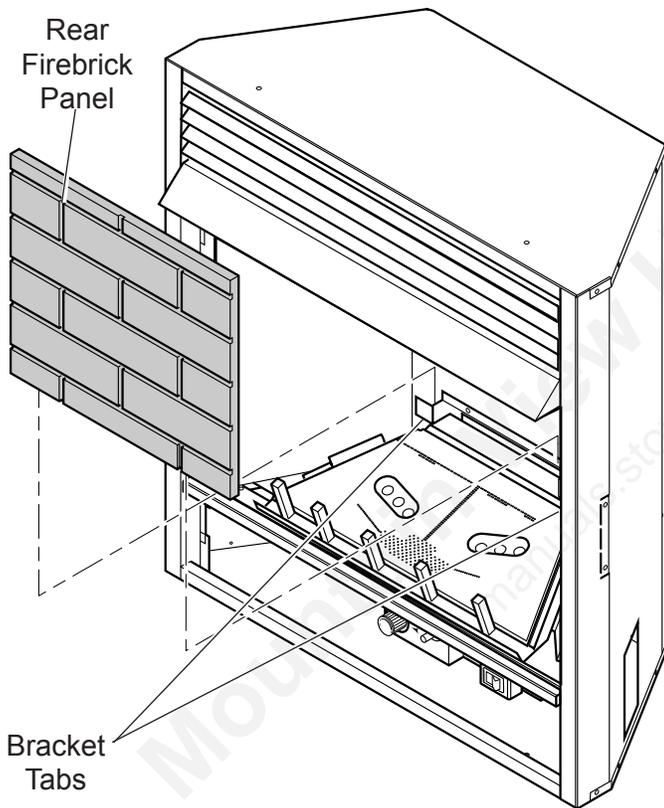

Figure 4 - Installing Back Firebrick Panel
4. Place rear firebrick panel on back wall of firebox. Set bottom of panel behind the bracket tabs of the grate. See Figure 4.